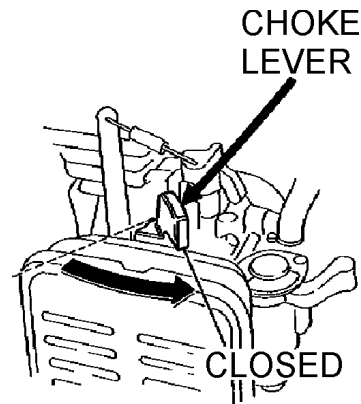

Figure 23. Engine Choke Lever (Closed)
4. Place the **choke lever** (Figure 23) in the "CLOSED" position if starting a **warm engine** or the **temperature is warm**.
7. If the engine has started, slowly return the choke lever (Figure 23) to the **CLOSED** position. If the engine has not started repeat steps 1 through 6.